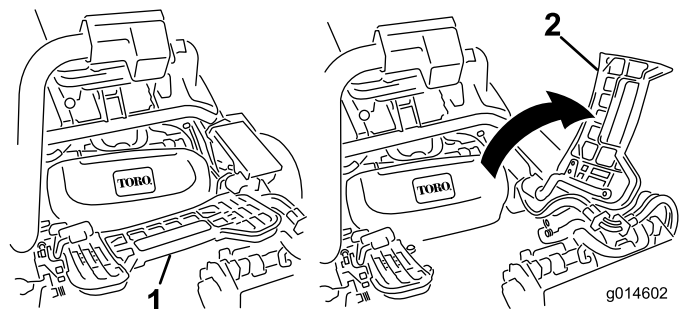

Figure 11
7. If installing the center cutting unit, lift up on the foot rest and swing it up, allowing access to the center cutting unit position (**Figure 11**).